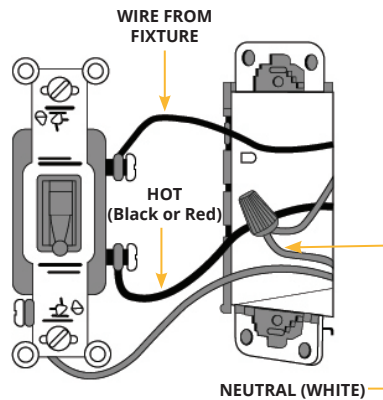

FIGURE 1
3. Ensure both the "hot" and "neutral" wires are present in the junction box (refer to Fig. 1). If not, additional wiring is required before proceeding. Strip the insulation from the ends of both wires and ensure they are straight.